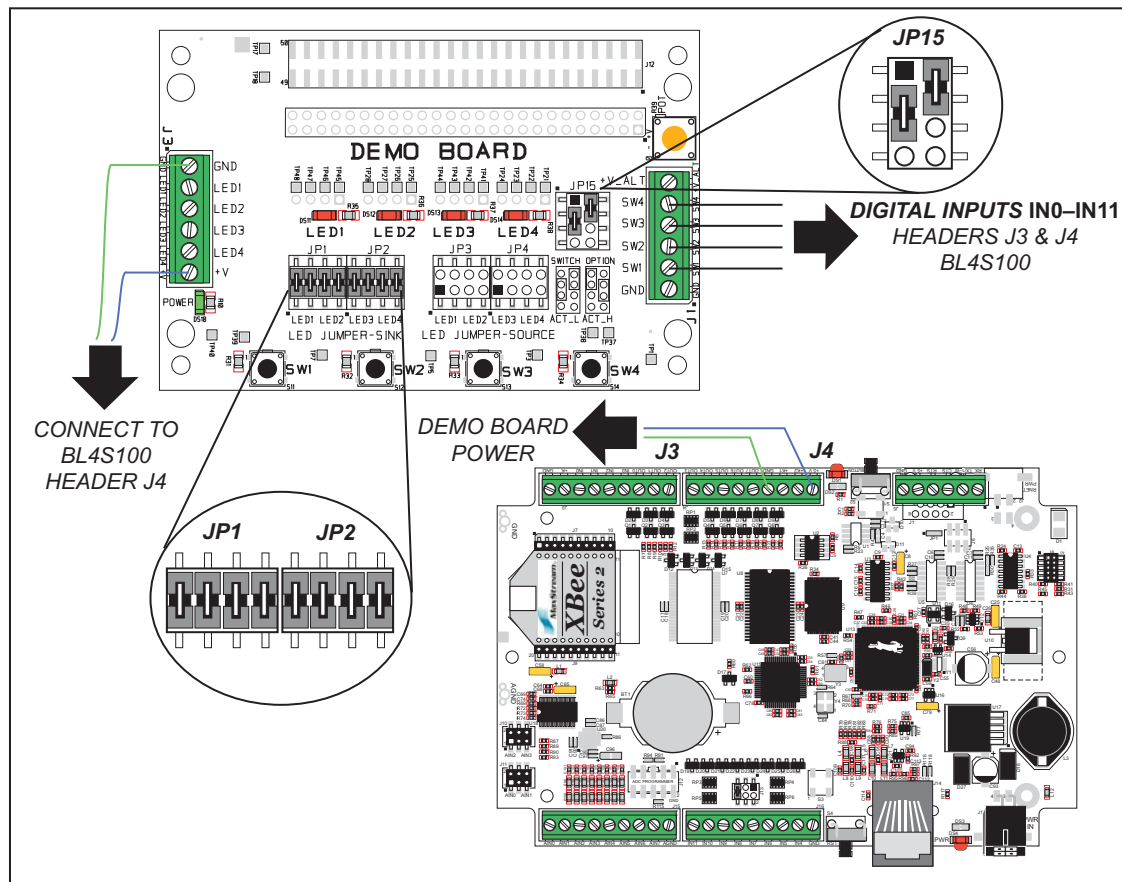

Figure 14. Digital Inputs Signal Connections
Figure 14 shows the signal connections for the sample programs that illustrate the use of the digital inputs.
- **INTERRUPTS . C**—Demonstrates the use of the Rabbit RIO interrupt service capabilities. Set up the Demonstration Board as shown in Figure 14 with IN0 connected to SW1.